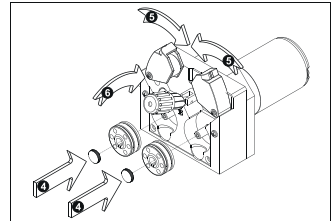

Figure 19: Wire Feed Roller Placement
- After inserting the rollers, you will use, re-insert the screws and lower the pressure rollers and lock the pressure roller lever onto the rollers (Figure 19).